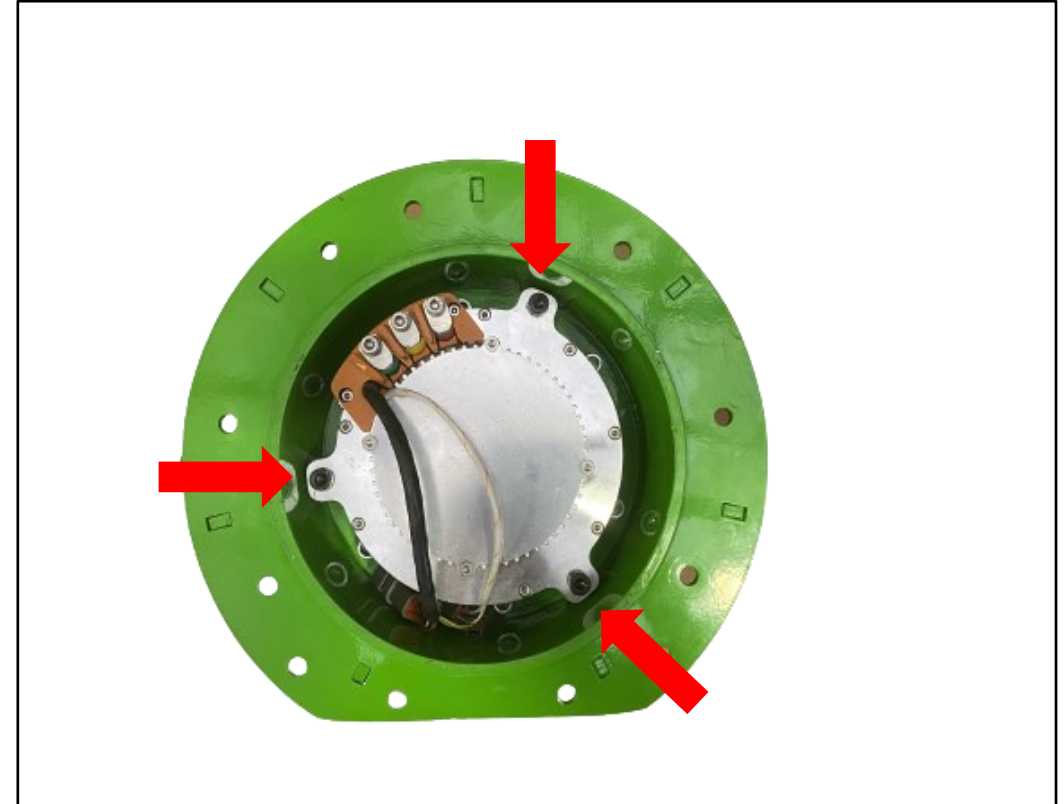

Figure-03: Remove the (3) Allen head bolts holding the motor to the gearbox. Remove Motor from Gearbox.
Step 5: Once the drive is safely removed, Remove the 3 Allen head bolts holding the motor to the gearbox (See Figure-03)